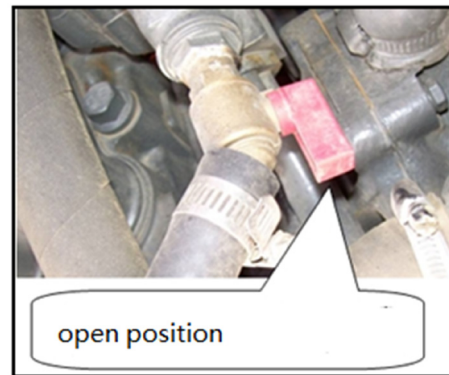

Figure 26a
- In the winter, if you want to keep warm, you need to open the water valve; In the summer, don't need to keep warm, you must close the water valve(Fig.26a);